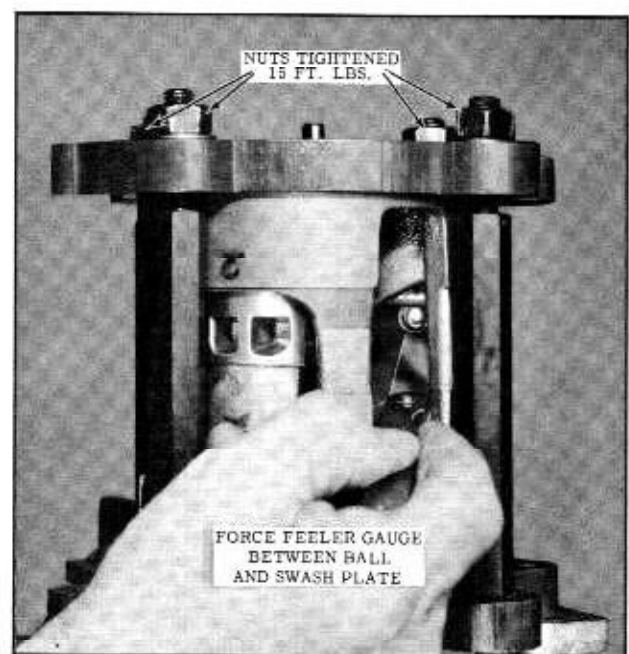

Fig. 14-52 Checking Drive Ball to Swash Plate Clearance
12. Use a leaf type feeler gauge to check between the rear ball and swash plate. (Fig. 14-52)